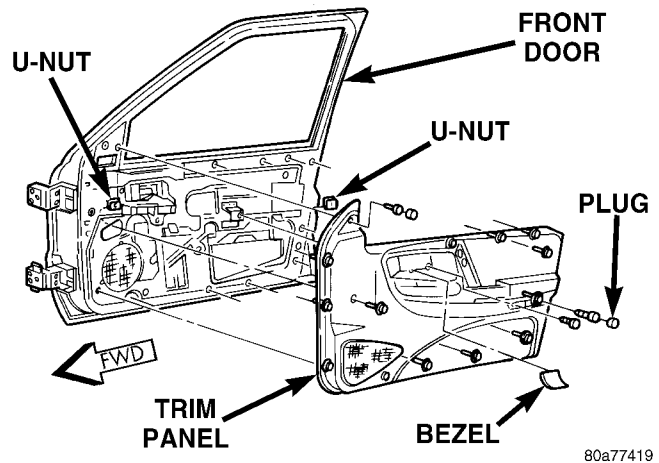

Fig. 3 Front Door Trim Panel Remove/Install
(1) Disconnect and isolate the battery negative cable.
(2) Remove the bezel near the inside door latch release handle by inserting a straight-bladed screwdriver in the notched end of the bezel and prying gently upwards.
(3) Remove the screw located beneath the bezel that secures the front door trim panel to the inner door panel (Fig. 3).
(4) Remove the trim cap and screw near the rear of the front door armrest.
(5) Remove the trim cap and screw at the upper front corner of the front door trim panel.
(6) Remove the screw located above the front door speaker grille on the front door trim panel.